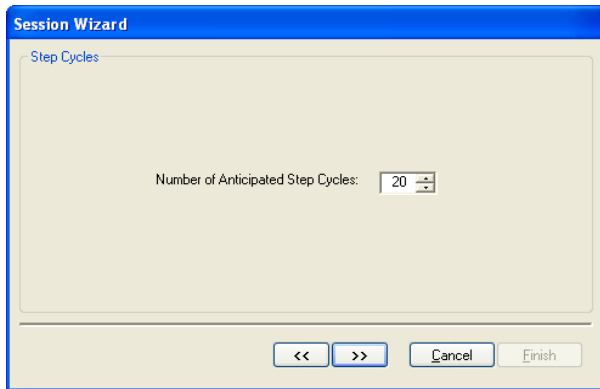

Figure 6: Enter number of Step Cycles
9. Enter number of walking steps. In the first window you may enter the number of walking step cycles you plan to conduct, as in Figure 6. Twenty is typical, but you may enter any number suitable to your needs. Press **>>** to continue.